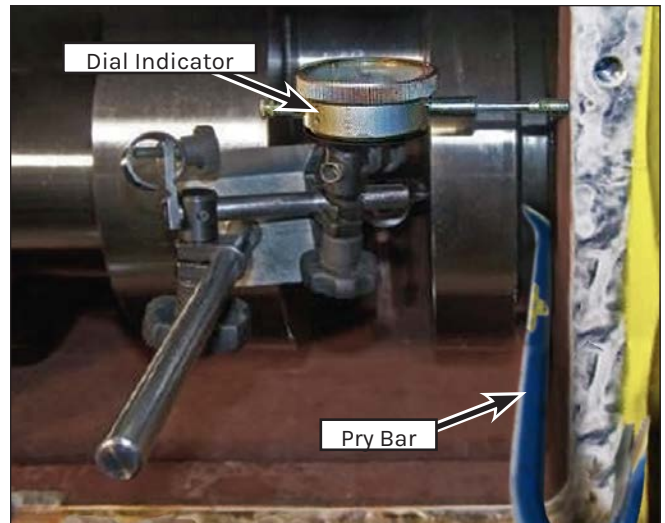

Figure 186: Dial Indicator Mounting.
13. Mount a magnetic base dial indicator on the crankshaft with the indicator pin on the inside edge of the rear opening, as shown in Figure 186.